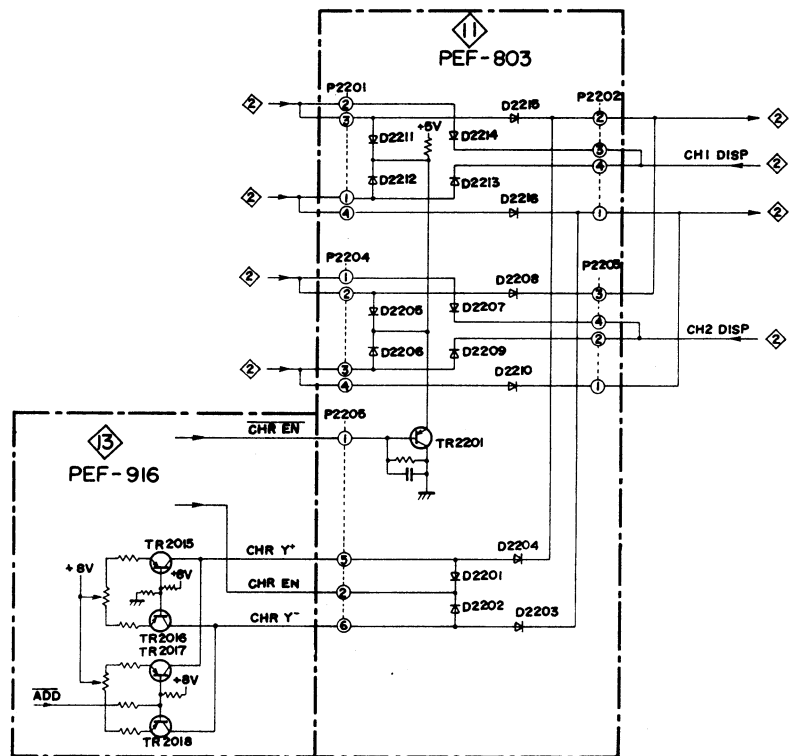

Fig. 5-2
Fig. 5-2 is the comprehensive schematic diagram including the connections. Refer to Fig. 5-2 and the 11 section at the top
The DC balance at the input side of the V AMP (1) is lost according to the above circuit operation. This DC balance is adjusted by the CHR bias circuit (two DIFF AMP's shown in the 13 section of Fig. 5-2).